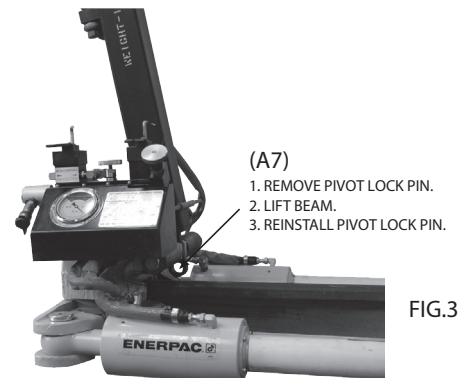

FIG.3
7. Remove the beam pivot lock pin **{(A7) IN FIGURE 3}**, and lift the beam to the upright position. Lock the beam in the upright position by replacing the beam pivot lock pin **{(A7) IN FIGURE 3}** in the pivot lock hole.